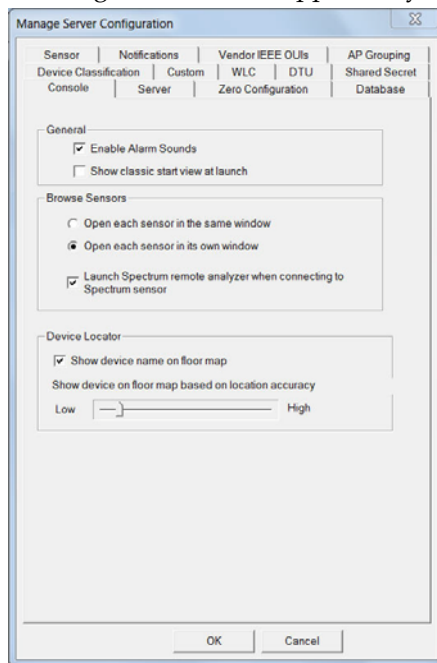

Figure 13-1: Configuring Console settings
- 1) From the Enterprise Console, click **Manage>Server Options....** The Manage Server Configuration screen appears. By default, the Console tab is selected. See Figure 13-1.
Managing system configuration involves several tasks as indicated by the tabs across the top of the Manage Server Configuration screen. Each task is carried out in a separate screen. You need to use the tab to bring up the screen for the task you want to perform. Figure 13-1 shows the default